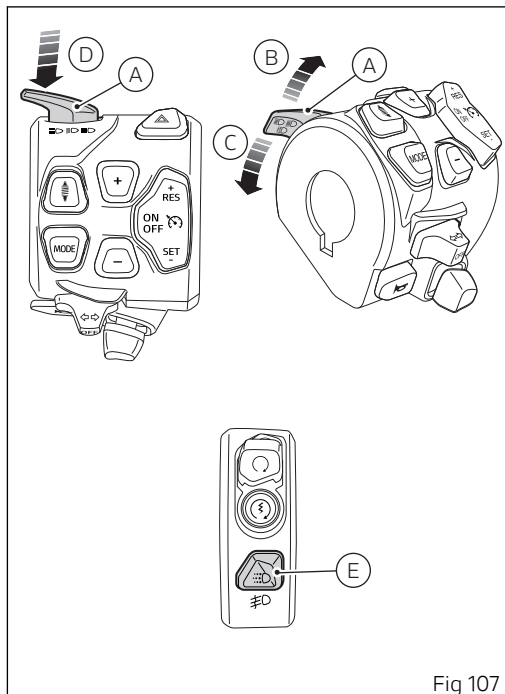

Fig 107
When the DRL is set to "Auto" mode, the corresponding warning light will turn on. If the DRL was set to "Auto" mode, press button (E, Fig 107) to disable that mode and set manual light management. Press again button (E, Fig 107) to re-enable DRL but with control strategy set to "Manual".
If the DRL lights are in this mode, as set through the "DRL" function within the "Setting menu" (page 259) DRL lights will not change their status upon key-on. To switch on or off the DRL lights, it is necessary to press button (E, Fig 107).
- if DRL lights are present, press and hold button (E, Fig 107) for a long time;
- if DRL lights are not present, press button (E, Fig 107).